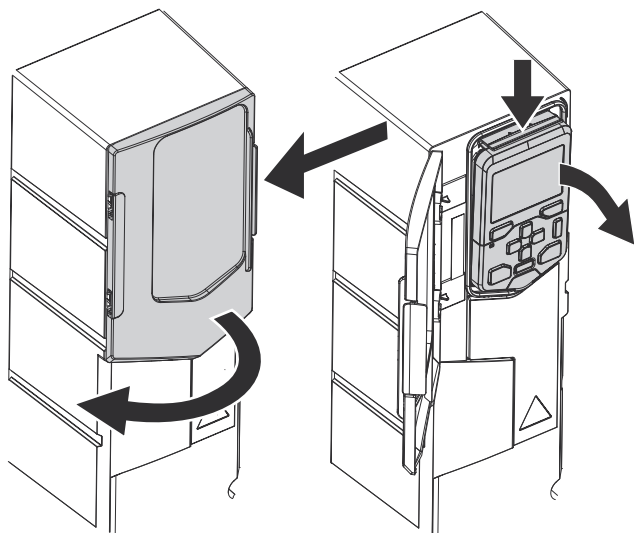

Fig. 48 — Open Keypad Cover and Remove Keypad
2. Remove the remote keypad, if installed. See Fig. 48.